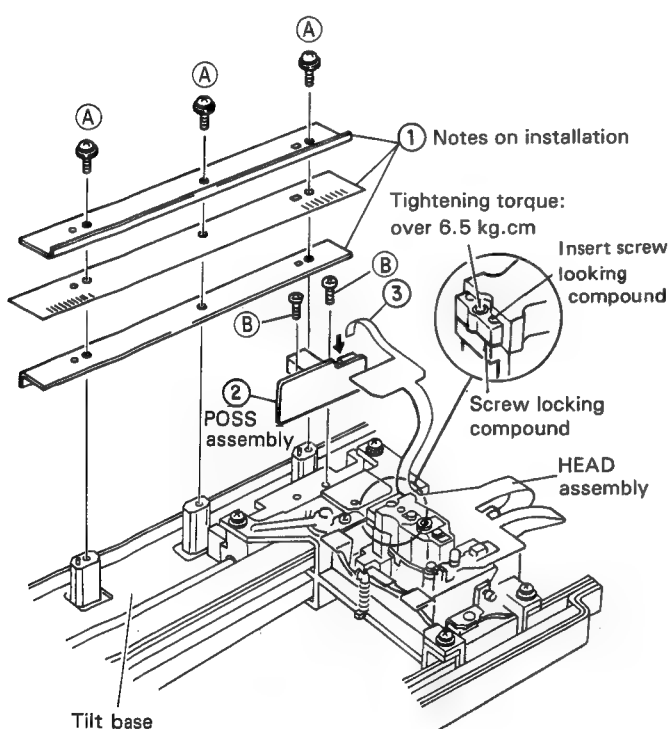

Fig. 7-5
7.2 HOW TO INSTALL THE PICK-UP ASSEMBLY (Fig. 7-5)